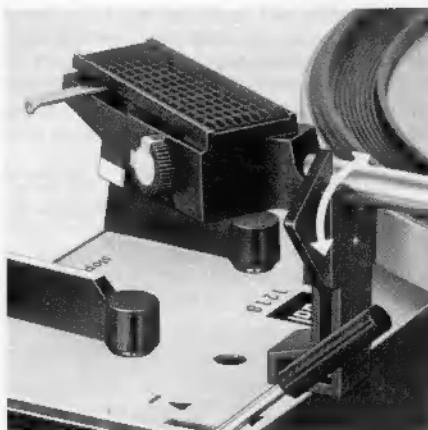

Fig. 7
Select the appropriate turntable speed ②, set the record size selector ⑬ to 7", 10" or 12" resp. (17, 25 or 30 cm), depending on the size of the record you want to play, and unlock the tonearm (Fig. 7).
Note: At the end of a record, or at the end of the last record of a stack, the return of the tonearm and switch-off are automatic. It is advisable to lock the tonearm in place (Fig. 7) after turning off the system.